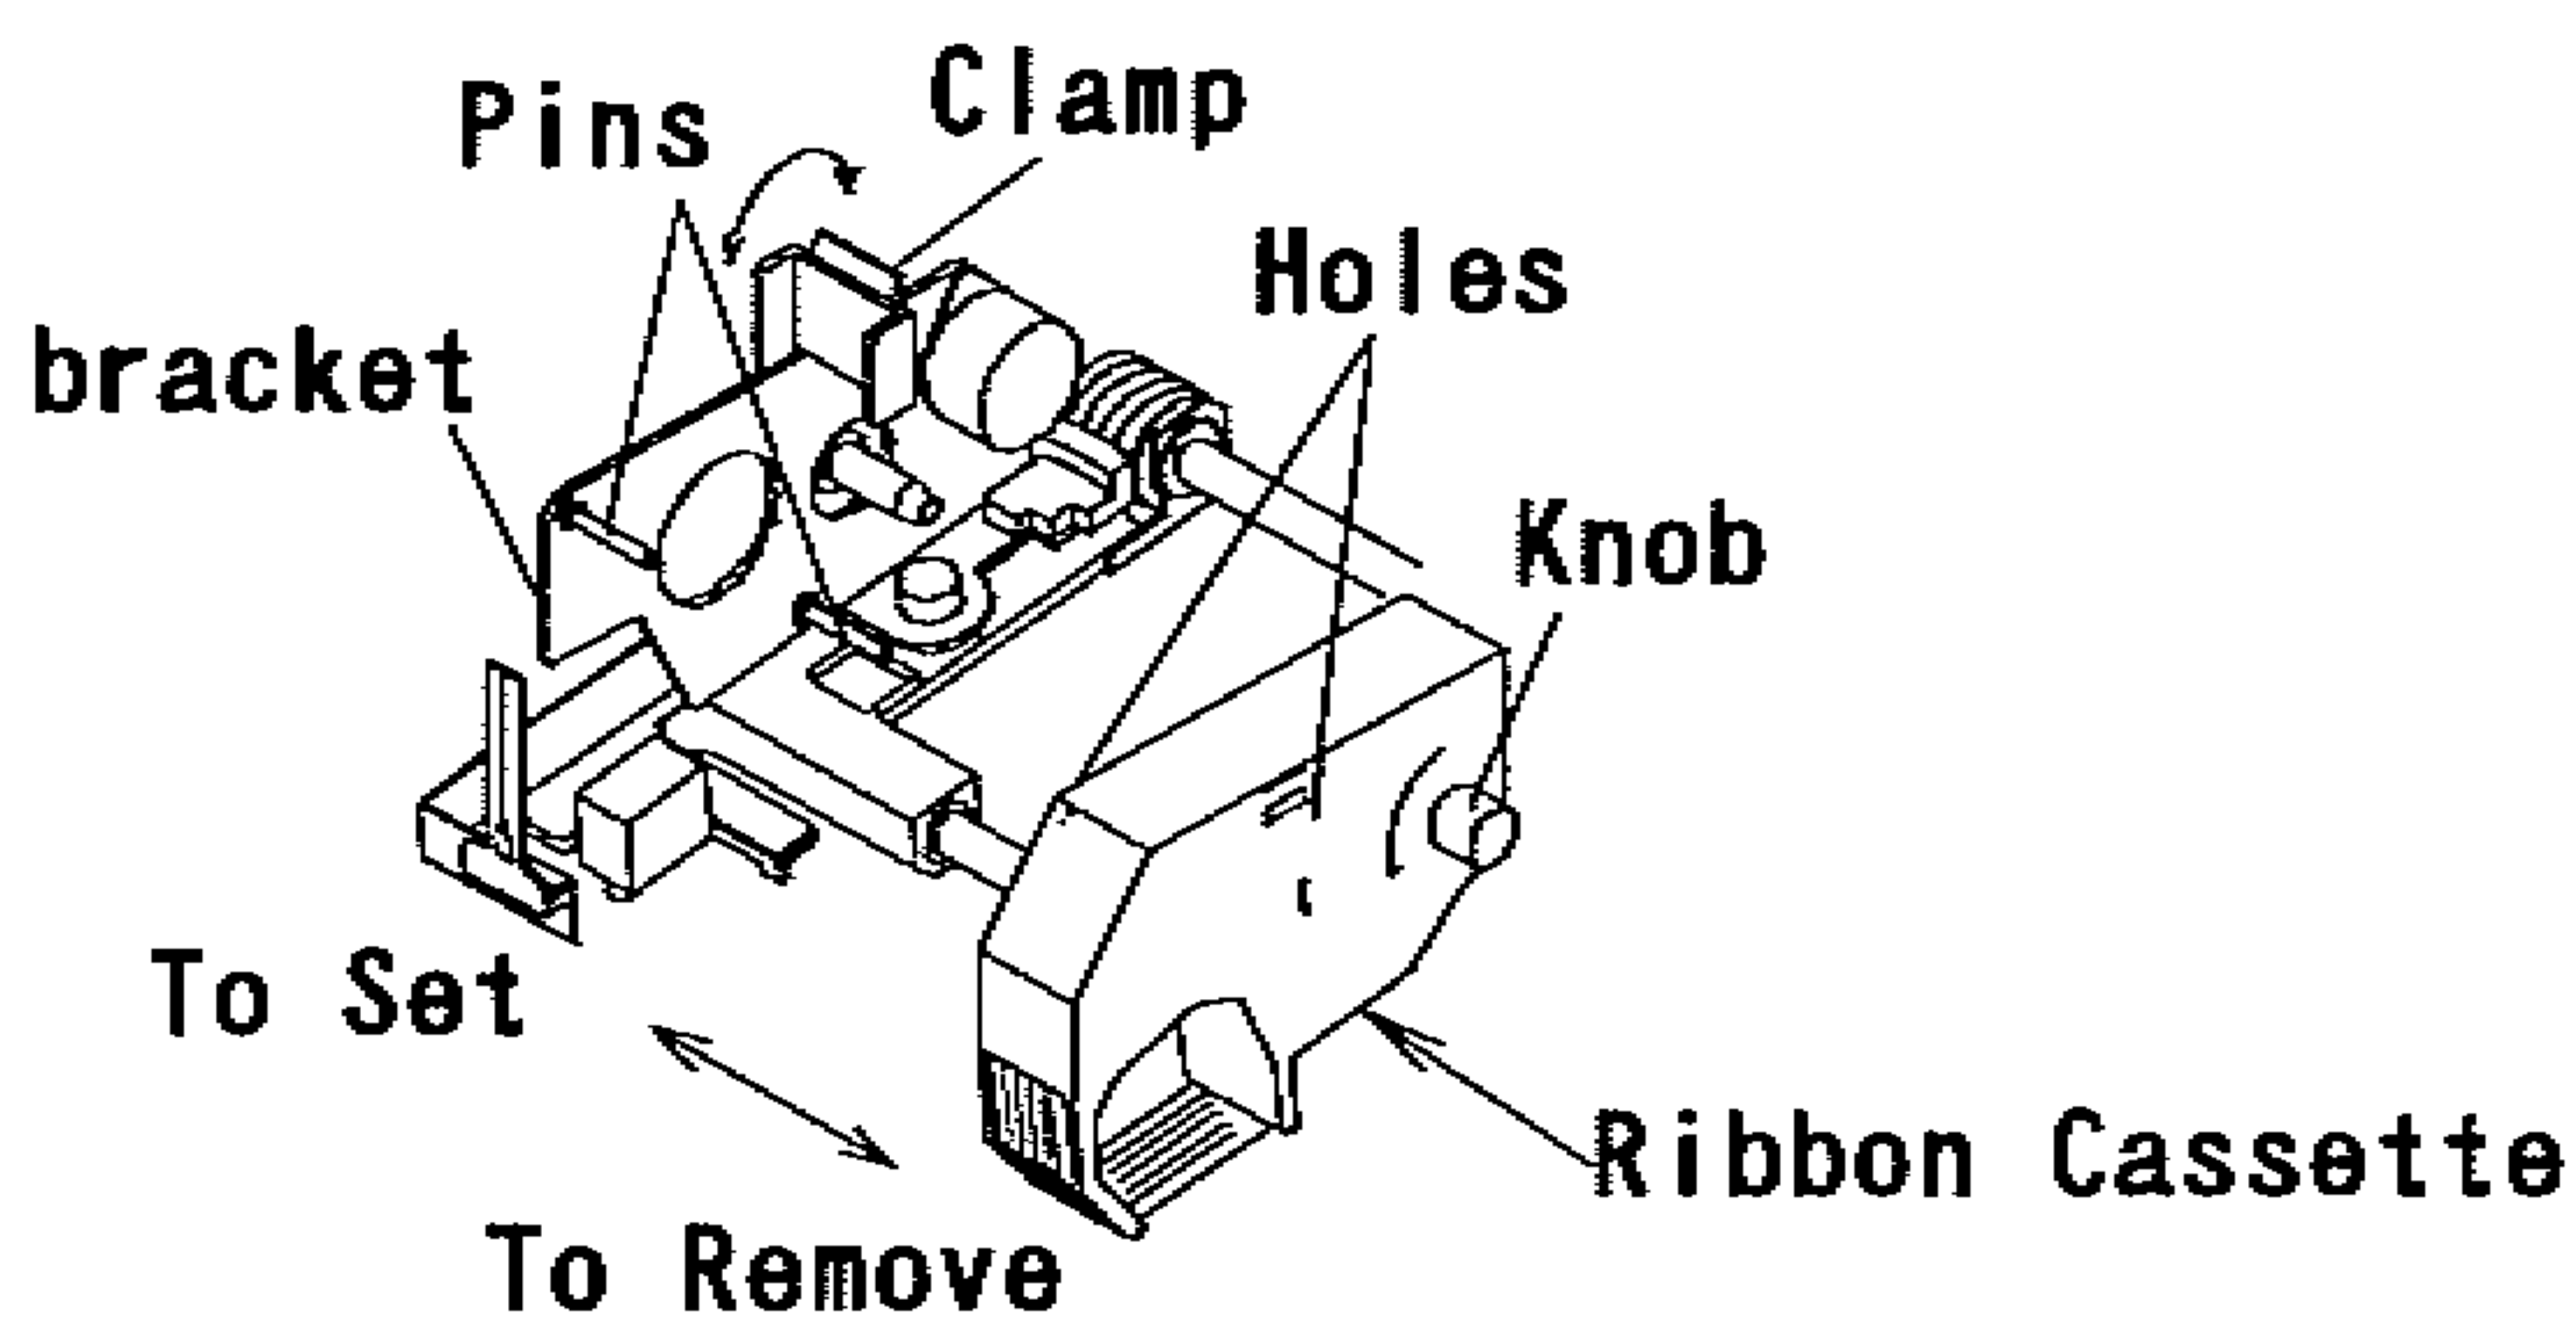

Fig. 5.8 Printer and Ribbon cassette
(3) With your fingers, move the printer to the center of the main unit.
(4) When replacing the ribbon cassette, remove a clamp from it and draw out the ribbon cassette in the removing direction shown in Fig. 5.8 to remove it.